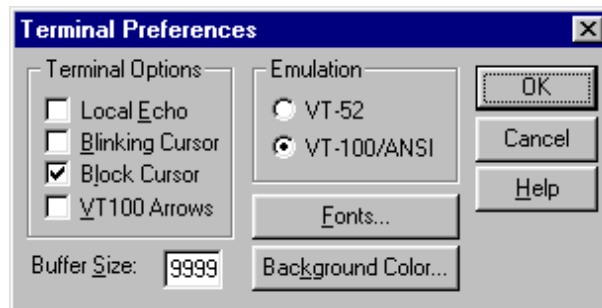

Figure 122. TELNET Terminal Preferences
5. Change the *Buffer size* to **9999**, as shown in to Figure 122. This enables you to scroll back through the entire console log file.